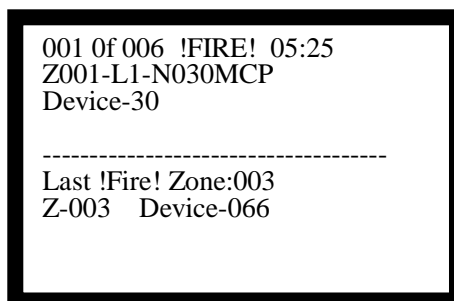

Fig. 5-4
2. Fire alarm screen for loop display mode is shown in Fig. 5-4.